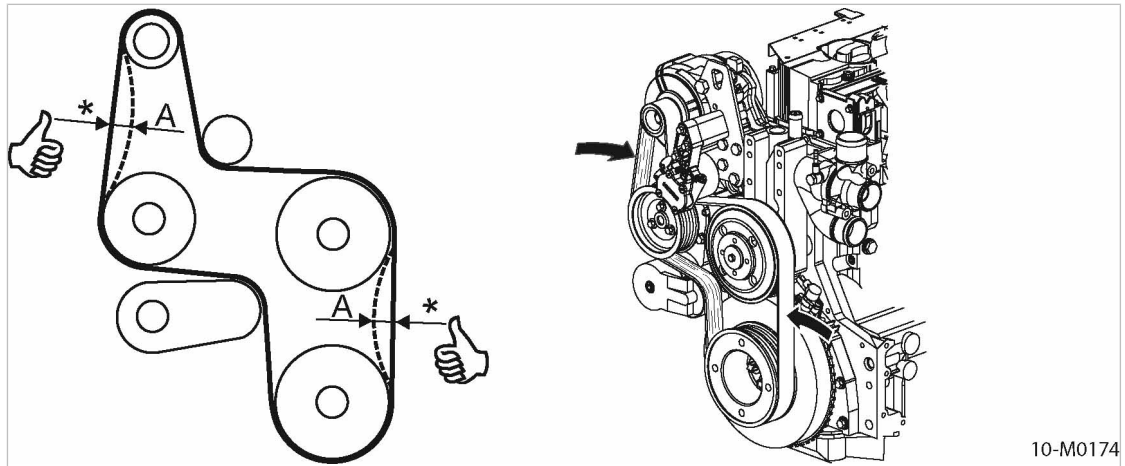

Fig. 63 Manual checking of the belt tension
<ol style="list-style-type: none"> <li>1. Check belt tension with the tension measuring device.</li> <li>2. Increase the tension on a loose belt.</li> </ol>	<p>Press the belts in with the thumb at the mid-point between pulleys.</p> <ol style="list-style-type: none"> <li>1. Check belt tension by hand (see Fig. 63).</li> <li>2. Increase the tension on a loose belt.</li> </ol>
3. Check the belt tension (see Fig. 63).